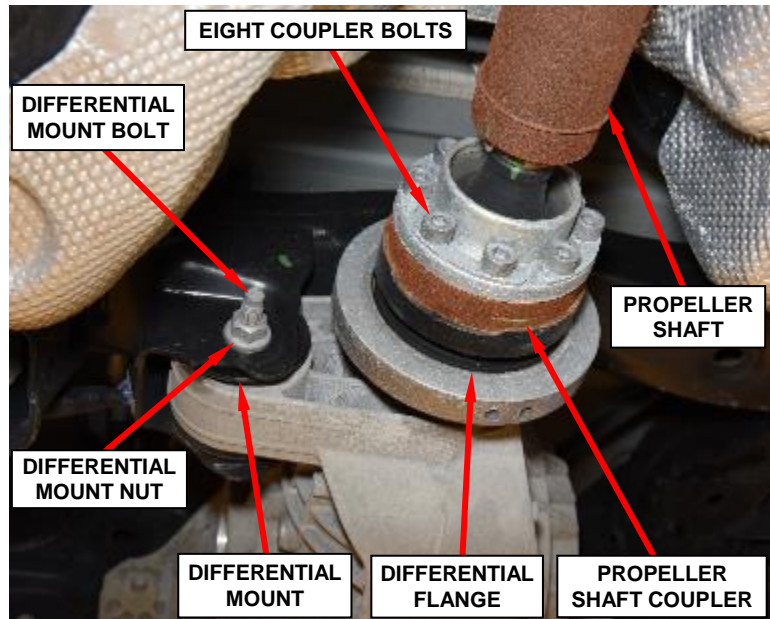

Figure 17 – Propeller Shaft and Differential Mount
10. Remove and discard the eight bolts securing the propeller shaft coupler to the differential flange (Figure 17).
12. Remove and discard the bolt and nut from the rear axle differential mount (Figure 17).
23. Install the **new** bolt and **new** nut securing the rear axle differential forward mount to the vehicle frame. Tighten the bolt and nut to 135 N·m (100 ft. lbs.) (Figure 17).
25. Install the **new** propeller shaft to the differential flange bolts. Tighten the bolts in a star pattern to 55 N·m (41 ft. lbs.) (Figure 17).